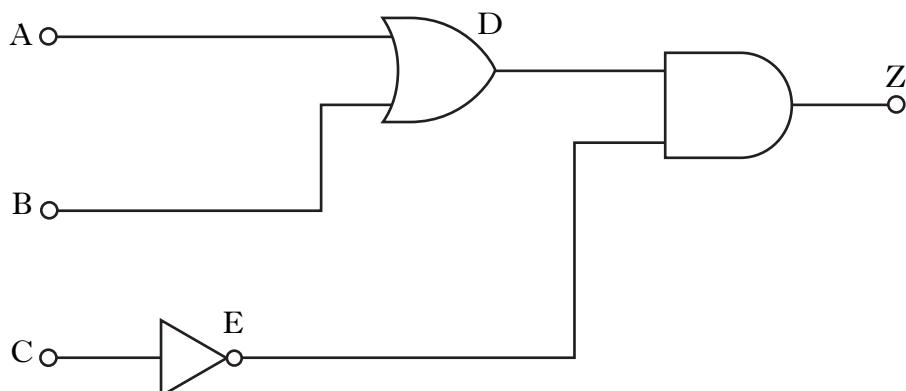

Figure Q2(a)
2. The logic diagram for a security system is shown in Figure Q2(a).
- (a) With reference to the logic diagram shown in Figure Q2(a):